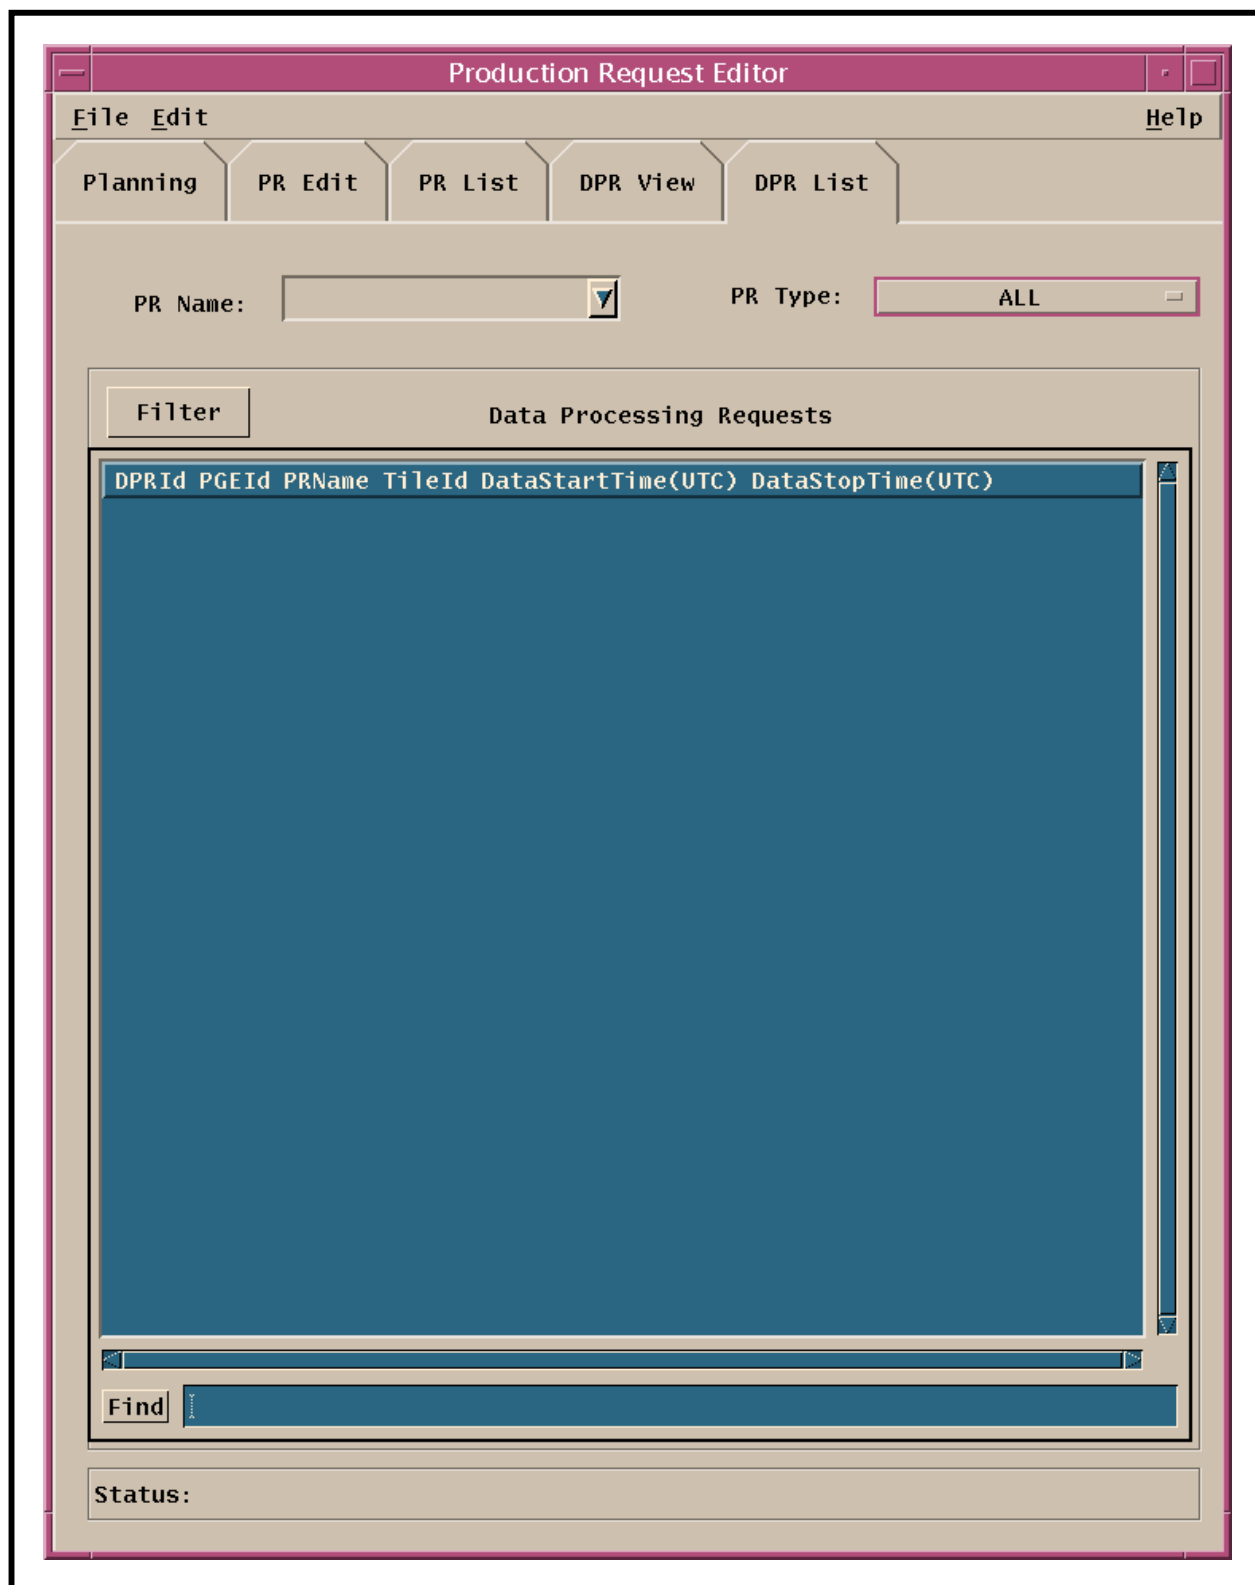

Figure 31. DPR List GUI
- The **DPR List** GUI page (Figure 31) is displayed.